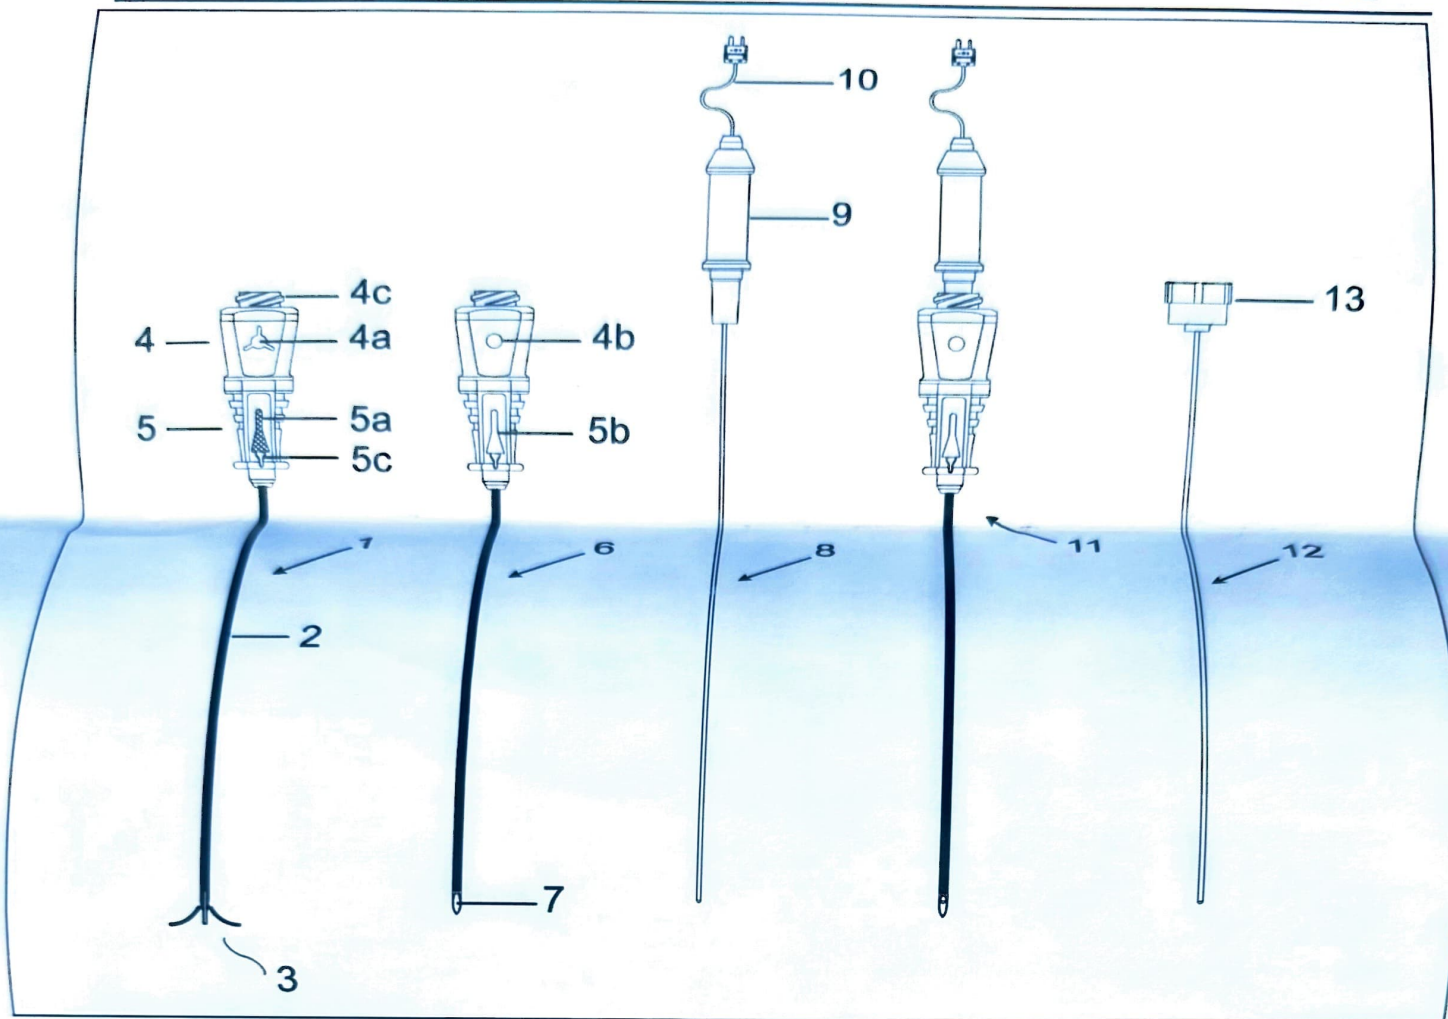
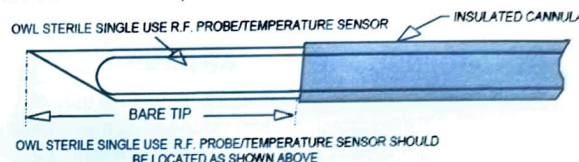

Figure 1. OWL Single Use Trident™ RF Insulated Cannula model DTR. (RF Probe/Temperature Sensor supplied separately)
Figure 2. Correct position of RF Probe/Temperature Sensor within the Trident™ RF Insulated Cannula. Tines are not shown.
4. Test the match by removing the stylet from the cannula and slowly inserting the RF Probe/Temperature Sensor into the cannula. Do not use excessive force to avoid damage to the RF Probe. The tip of the RF probe must lie within the bare tip of the RF cannula, see Figure 2. Otherwise the measured temperature will be incorrect. To further verify this, note the position of the handle of the RF Probe, Figure 1 (9) relative to the threaded top section of the Actuator, Figure 1 (4c). Then remove the RF Probe from the RF Cannula, place it parallel to and alongside the cannula and confirm that the tip of the RF Probe is no more than a mm short of the end of the RF Cannula bevel, but does not extend beyond it. Reinsert the Stylet into the RF Cannula.